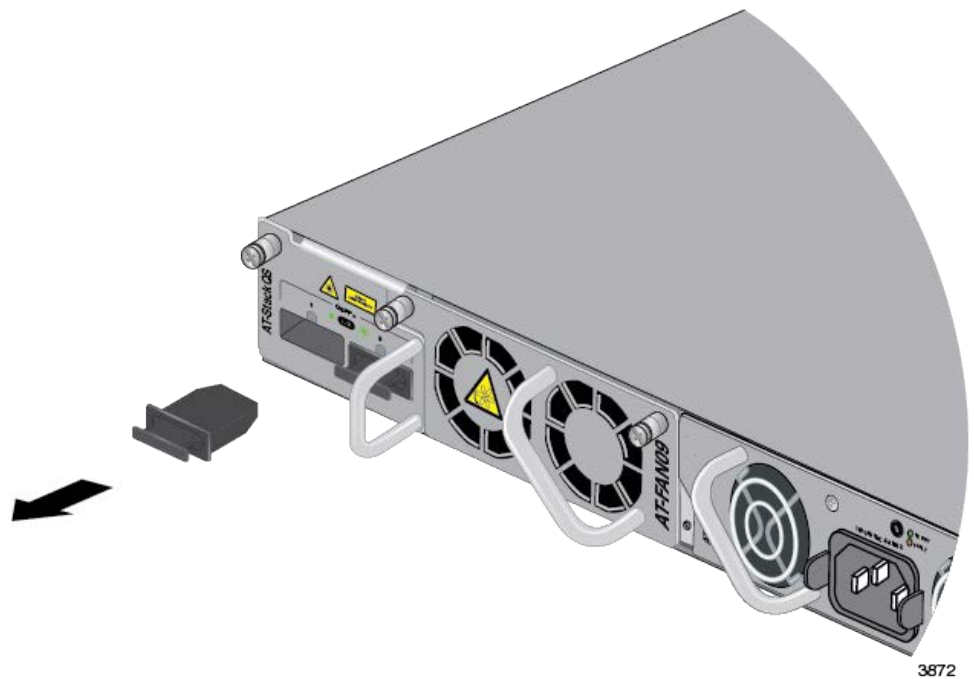

Figure 82. Removing the Dust Cover from Port 1
1. Remove the dust cover from a port on the AT-StackQS Card. Refer to Figure 82.